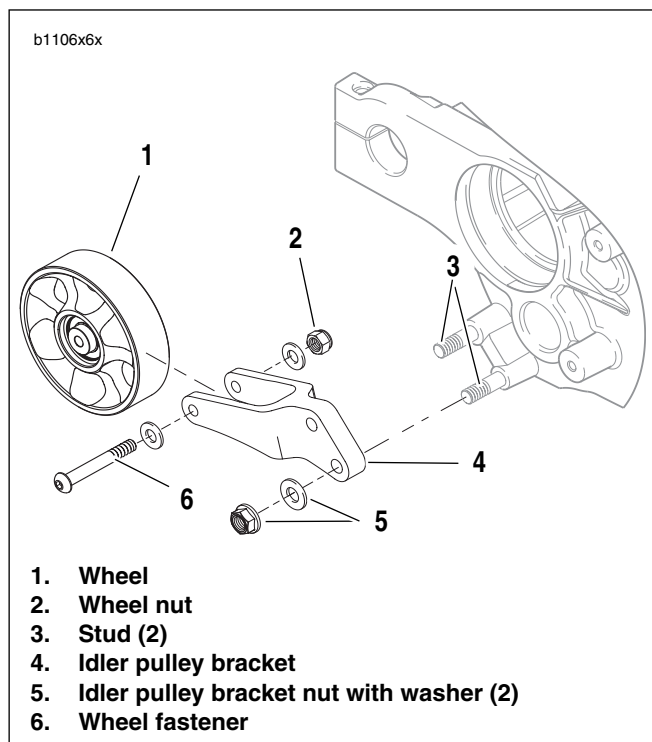

Figure 6-96. Idler Pulley Assembly
4. See Figure 6-96. Remove both bracket nuts with washers (5) attaching idler pulley bracket (4) to studs (3).
6. Inspect pulley by spinning wheel (1) and checking for wheel bearing wear. See INSPECTION under 1.10 DRIVE BELT.
7. If pulley wheel needs replacement, remove fastener (6) and washer (3) from idler pulley bracket (4) and discard. Replace with **new** pulley wheel (1).